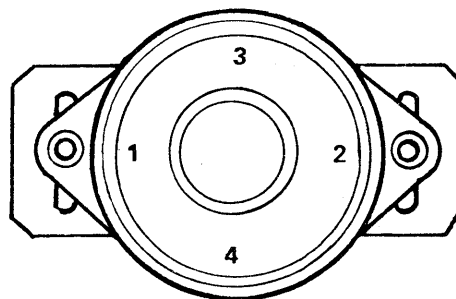

Figure 4-12. Pressure Points on Positioner
- e. As the positioner steps, apply gentle pressure to the body of the step motor at the points indicated (1, 2, 3, and 4) in figure 4-12, until misstepping occurs. Assess qualitatively the pressure required to cause misstepping. If the pressure is equal at all four points, and/or if a small region of free rocking exists in both axes, this is acceptable; proceed directly to step p.